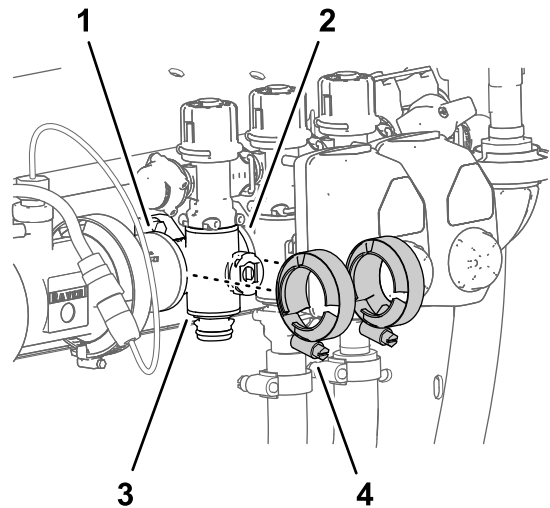

Figure 117
3. Remove the 2 flange clamps that secure the section-manifold valve to the flanges of the adjacent components (Figure 117).